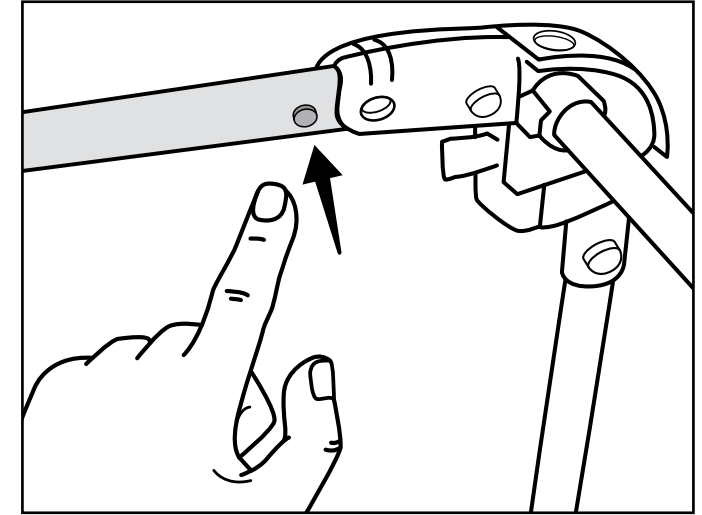
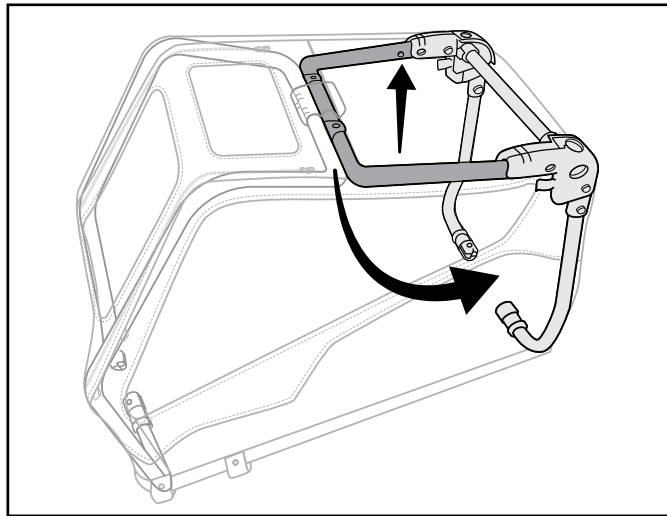

Figure 8
Figure 9
3. From the rear of the trailer, depress and hold the right and left frame buttons (Figure 8), and rotate the middle frame member downwards until it snaps into place (Figure 9).